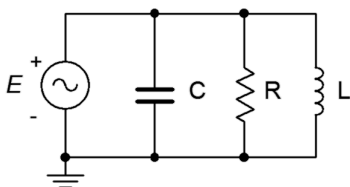

Figure 7.7
7. For the circuit shown in Figure 7.7, determine apparent power S , real power P , reactive power Q and power factor PF . The source is 120 volts, $X_L = j40 \Omega$, $X_C = -j25 \Omega$, $R = 20 \Omega$.
8. For the circuit shown in Figure 7.7, determine apparent power S , real power P , reactive power Q and power factor PF . The source is 120 volts, 60 Hz. $R = 80 \Omega$, $C = 20 \mu\text{F}$, $L = 400 \text{ mH}$.